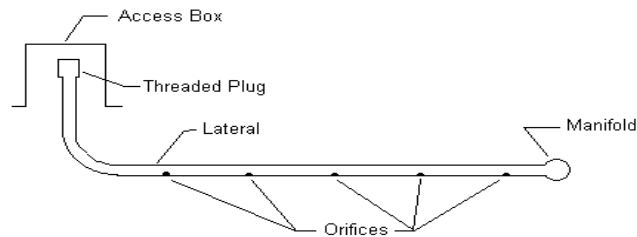

Figure 1 – Lateral Length
2. Determine lateral length and spacing in accordance with the soil treatment/dispersal component design or Table 2, if not specified in the soil treatment/dispersal component design. See Figure 1.